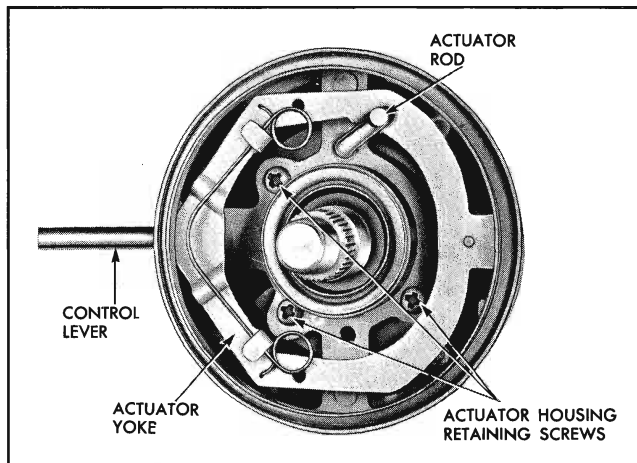

Fig. 9-14 Location of Actuator Yoke
10. Remove three screws which retain actuator housing and remove housing (Fig. 9-14).